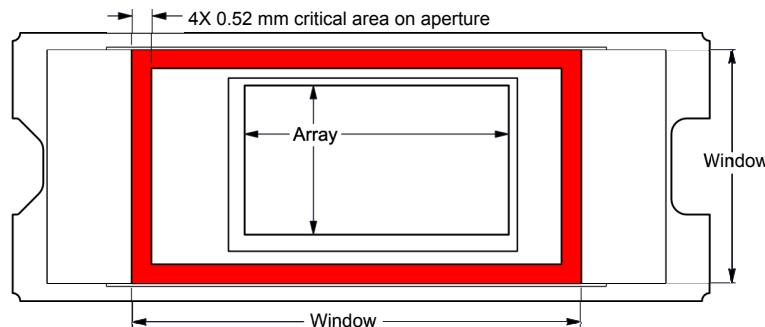

Figure 6-1. Illumination Overfill Diagram - Critical Area
- (16) The average over time (including storage and operating) that the device is not in the elevated dew point temperature range.
- (17) Exposure to dew point temperatures in the elevated range during storage and operation should be limited to less than a total cumulative time of CT_{ELR} .
- (18) The maximum marginal ray angle of the incoming illumination light at any point in the micromirror array, including Pond of Micromirrors (POM), should not exceed 55 degrees from the normal to the device array plane. The device window aperture has not necessarily been designed to allow incoming light at higher maximum angles to pass to the micromirrors, and the device performance has not been tested nor qualified at angles exceeding this. Illumination light exceeding this angle outside the micromirror array (including POM) will contribute to thermal limitations described in this document, and may negatively affect lifetime.
- (19) The active area of the device is surrounded by an aperture on the inside of the DMD window surface that masks structures of the DMD device assembly from normal view. The window aperture is sized to anticipate several optical operating conditions. Overfill light directly illuminating the window aperture can create adverse imaging effects, and additional device heating leading to reduced device lifetime. Direct incident illumination should be prevented from striking the DMD window aperture.
- (20) Applies to the region in red in Figure 6-1, at the inside plane of the glass window where the physical aperture is located.